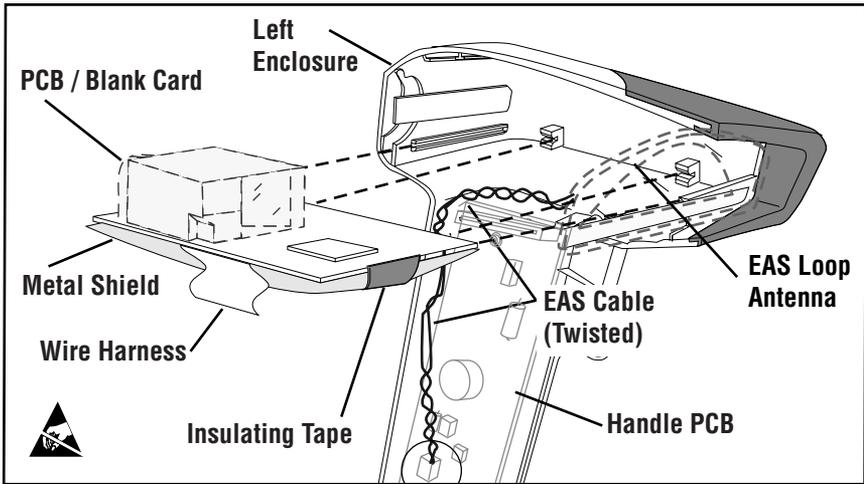

Figure 12. Reinstalling the PSB / Blank Card
1. Align the edges with their corresponding slots and slide the PCB or Blank Card assembly into place in the Left Enclosure. Ensure that all components (especially the speaker and Decoder PCB) are correctly seated in their appropriate positions. Reference Figure 12.